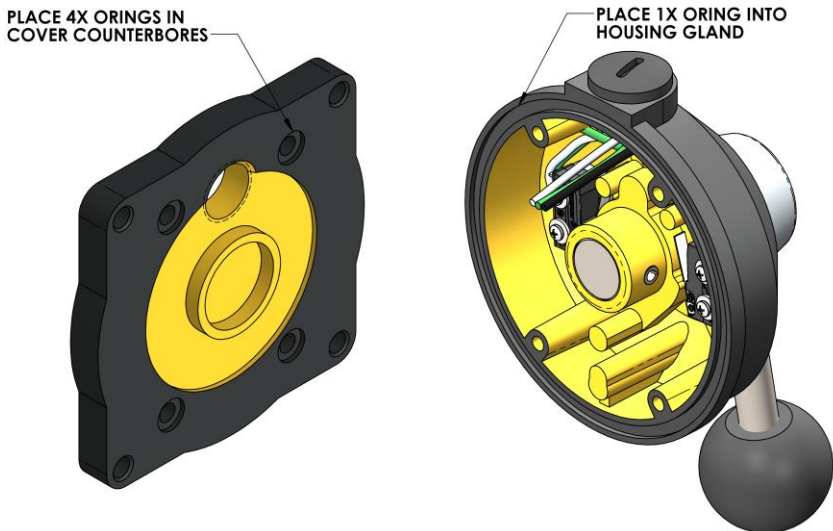

Figure 33: Oring placement on cover and housing
37. Place the 4X 3/16" ID O-rings into the counterbores on the cover as shown in Figure 33.
38. Place the 3-1/4" ID O-ring into the gland on the housing as shown in Figure 33.